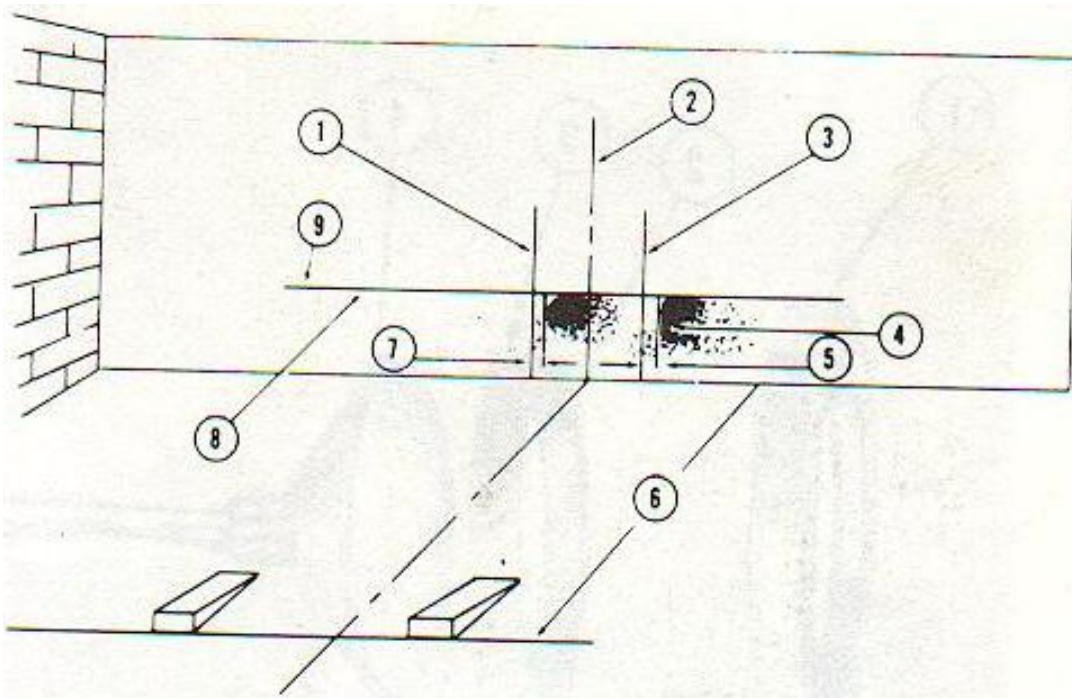

Figure 2-40. Headlight aiming chart.
(4) Turn the headlights on and operate the selector switch to high beam.
(5) If either headlight pattern differs from figure 2-40, loosen or tighten the adjusting screws as required to produce the correct pattern. Adjust the remaining headlight, if necessary, in the same manner.